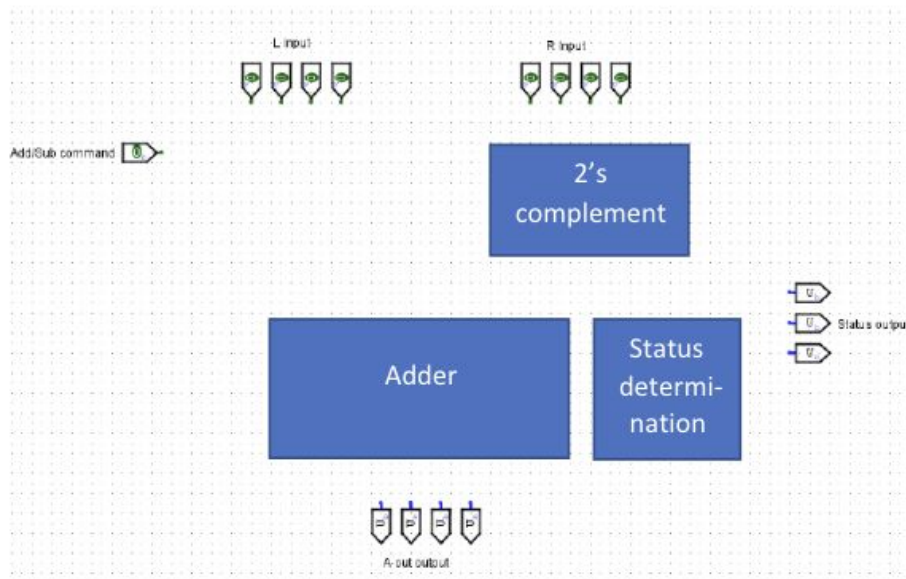

Figure 1: High-level view of ALU
- Task: Build the circuit of figure 1.
NOTE: Your final circuit does not need to look exactly like figure 1. However, the input and output pins must look like figure 1.